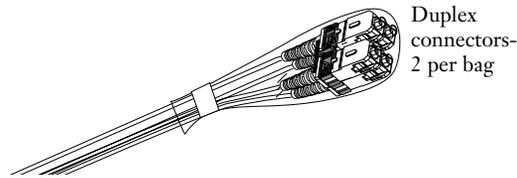

Figure 21
- For duplex connectors, place 2 sets of connectors to a bag (Figure 21).